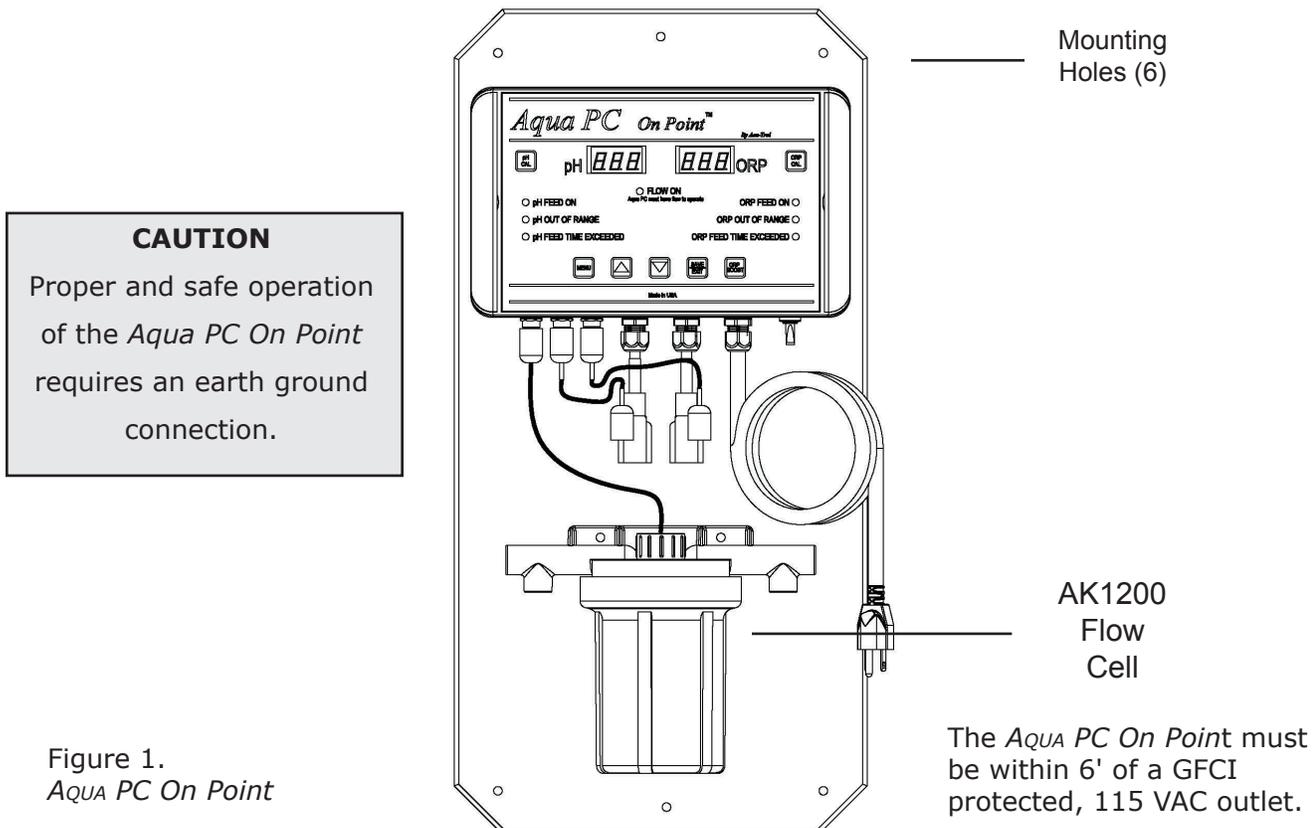

Figure 1.
- a. At least ten (10) feet from the pool or spa .
- h. Hold the mounting board with controller against the mounting surface and mark the selected holes located in the mounting board (see Fig. 1). Prepare holes as necessary and secure controller.